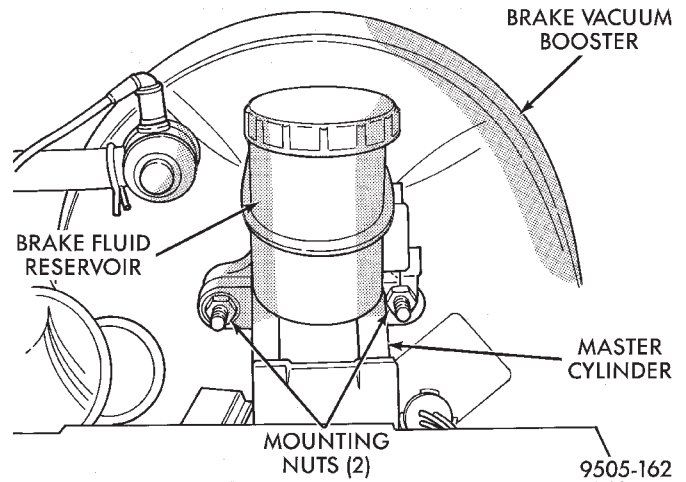
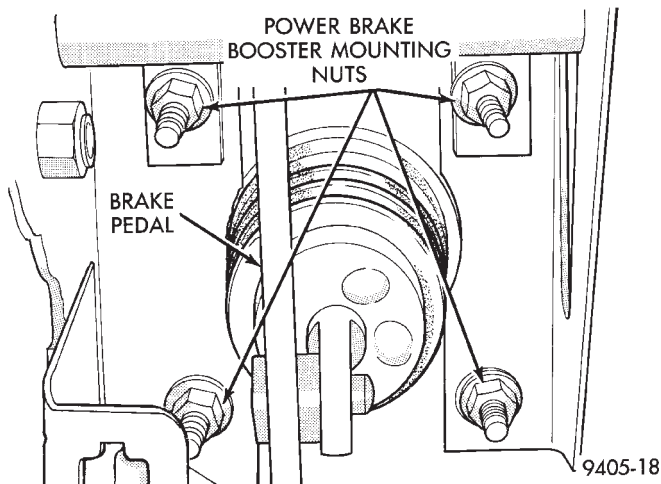

Fig. 60 Master Cylinder Mounting
Fig. 63 Power Brake Vacuum Booster Mounting
(8) Remove the 2 nuts (Fig. 60) attaching the master cylinder assembly to the power brake vacuum booster.
(11) Remove the 4 nuts attaching power brake vacuum booster to dash panel. Nuts are accessible from under dash panel in area of the steering column and pedal bracket assembly (Fig. 63).
(1) Position power brake booster onto dash panel.
(2) Install and torque the 4 power brake vacuum booster mounting nuts (Fig. 63) to 29 N·m (250 in. lbs.) torque.
(3) Using lubriplate, or an equivalent, coat the surfaces of the brake pedal pin that contact the power brake vacuum booster input rod.
(4) Connect power brake vacuum booster input rod to brake pedal pin and install a **NEW** retaining clip. **Use only a new retainer clip DO NOT USE the old clip.**
(5) Position master cylinder on studs of power brake unit, aligning push rod on power brake vacuum booster with master cylinder push rod.
(6) Install the 2 master cylinder to power brake unit mounting nuts (Fig. 60). Tighten the 2 mounting nuts to a torque of 28 N·m (250 in. lbs.).